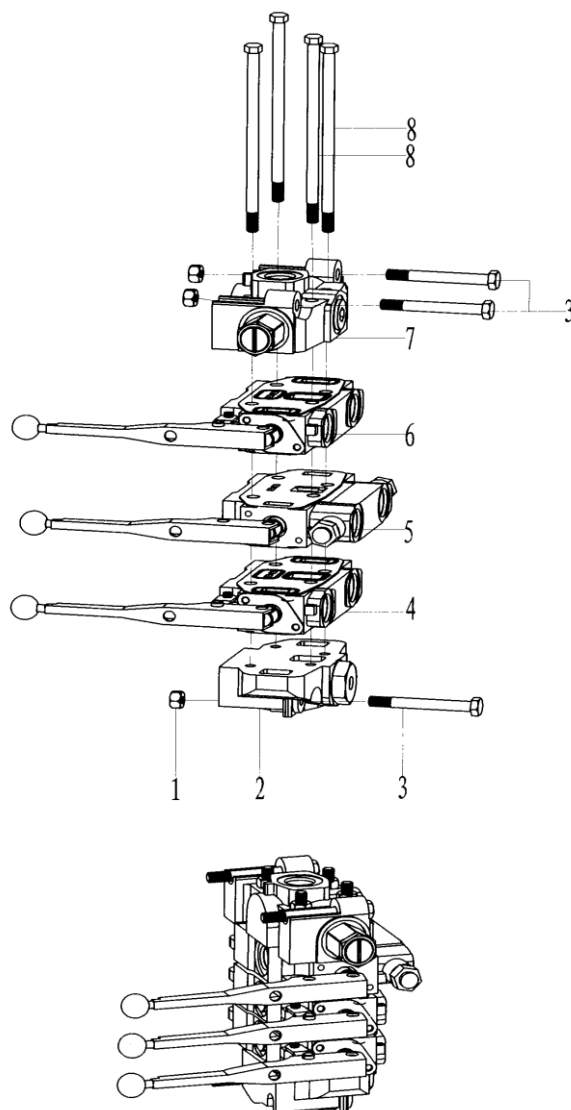

Fig. 7-10
10. Composite valve (Fig 7-10, Table 10)